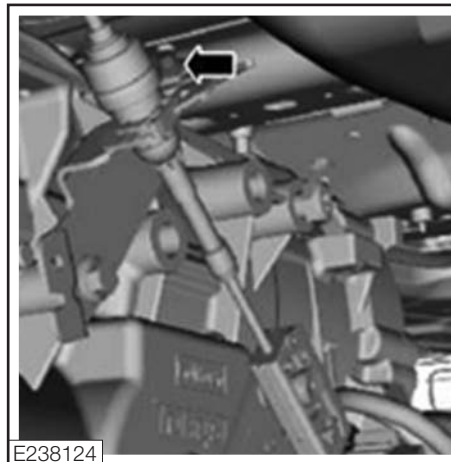

Figure 94
4. Remove the selector lever retainer bolt (**Fig. 94**).